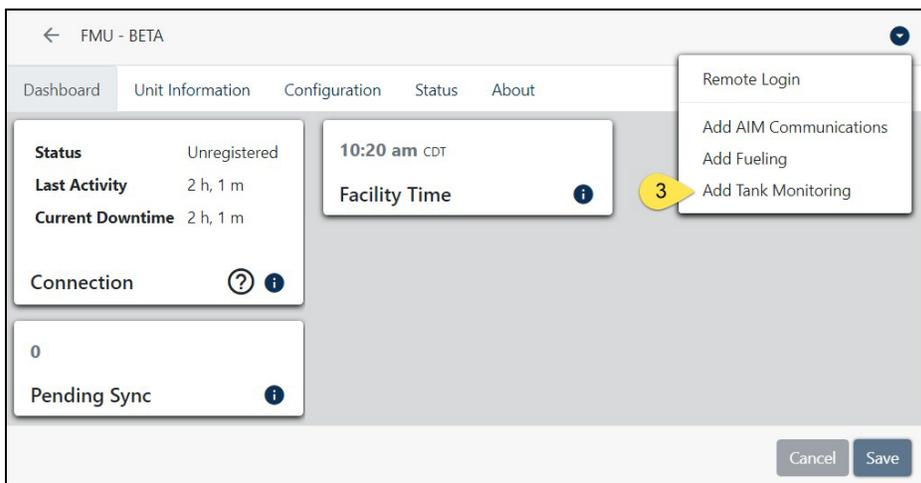

Figure 1
3. Select **Add Tank Monitoring** (Figure 1).